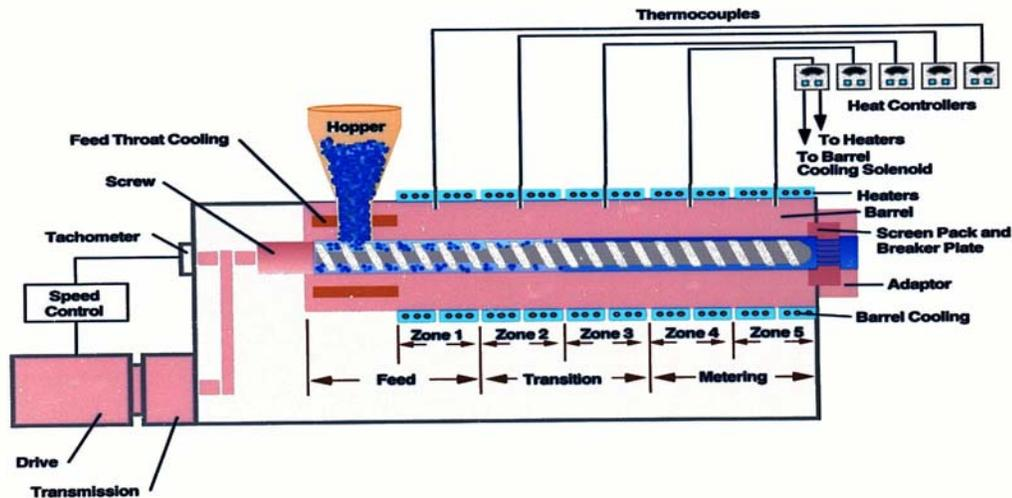

Figure 17. Cross section of an extruder
The extruder consists of a barrel that encloses a screw, heaters on the outside of the barrel, thermocouples to measure melt temperature and, sometimes, a screen pack through which the melt is forced as it flows into the die head (Fig. 17).
screw; and externally by heaters. The adapter and die head also are heated to prevent heat loss from the melt. Band heaters are the most common type of electric heater used. They respond rapidly, are easy to adjust and require minimal maintenance. As shown in Fig. 17, the heater bands are distributed along the barrel’s length in zones; generally there are three or four independent zones, each with its own heating control. About 25 to 45 watt/in. (4 to 7 watt/cm) of barrel surface gives adequate heat.
Thermocouples, inserted deep into the barrel wall in the various heating zones and in some cases even into the melt, monitor processing temperatures (Fig. 17). Thermocouples signal electronic temperature controllers which in turn, regulate heater bands and cooling devices. Regular maintenance checks should be made to make sure thermocouples are tightly seated in the barrel wall.
After travelling the length of the screw, the melt passes through a screen pack, supporting breaker plate and the adapter on its way to the die. The round breaker plate (**Fig. 17, Table 5**), is located between the end of the barrel and the head adapter, usually fitting into both, but sometimes only into the adapter. This prevents leakage. The thick breaker plate is enclosed by a sturdy ring and is pierced by a large number of equally spaced holes measuring one-sixteenth to one-eighth in. (1.6 to 3.2 mm) in diameter.
The screen pack, located in the breaker plate (Fig. 17), consists of a number of stainless steel screens. The mesh number associated with a screen represents the number of openings present per inch of screen. Therefore, higher mesh number screens are finer (have smaller openings) than lower mesh number screens. The screen pack acts as a filter for foreign matter that may be inadvertently mixed in the resin. A screen pack can help increase back pressure in the barrel, particularly if an extruder (or pressure) valve is not used for this purpose. This can be a benefit in terms of improved melt homogeneity and color dispersion. On the negative side, a screen pack (or switching to a heavier screen pack), can result in higher resin temperatures.
2. External pressure valves use a pin arrangement that varies the size of the opening at the extruder's adapter, thereby varying pressure. At the end of the extruder barrel, between the melt screen and the parison die head, there is an adapter (Fig. 17) that constricts and guides the resin melt flow in a streamlined path with a minimum of resin hangup.